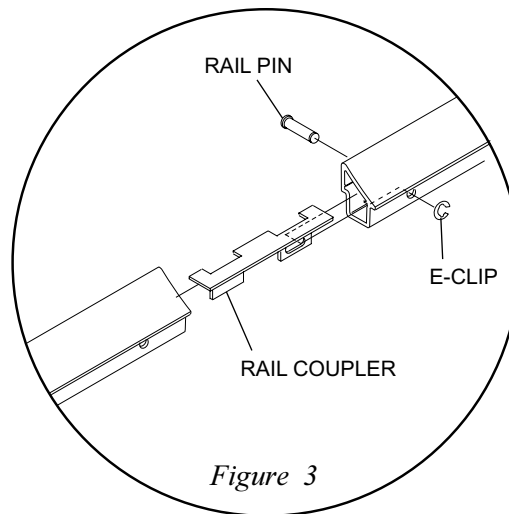

Figure 3
2. Separate the first rail from the second rail, by removing the e-clip and pin from the rail joint. Refer to Figure 3.
20. Reconnect the first rail to the second rail with a pin and an e-clip. Refer to *Figure 3*.